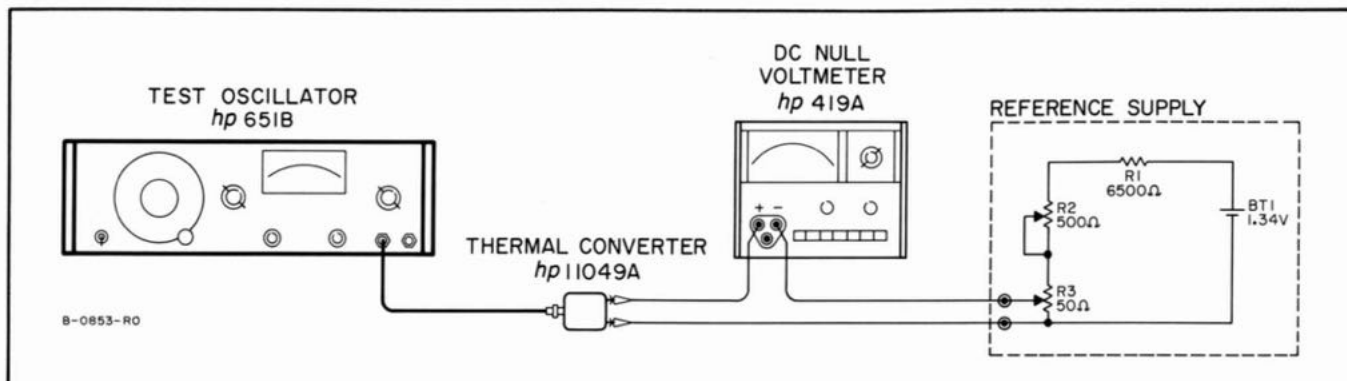

Figure 5-3. Monitor Flatness Check
- a. Connect nullmeter, thermal converter, and reference supply to 651B as shown in Figure 5-3, setting 651B and reference supply outputs to minimum before connecting.